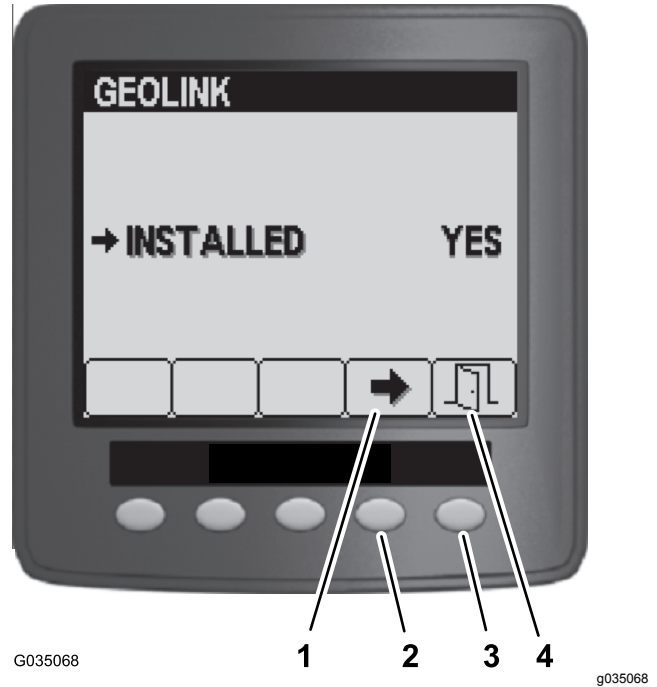

Figure 152
5. On the GeoLink menu, press button 4 to select the Yes option, and press the button 5 to save your settings and exit the menu (Figure 152).